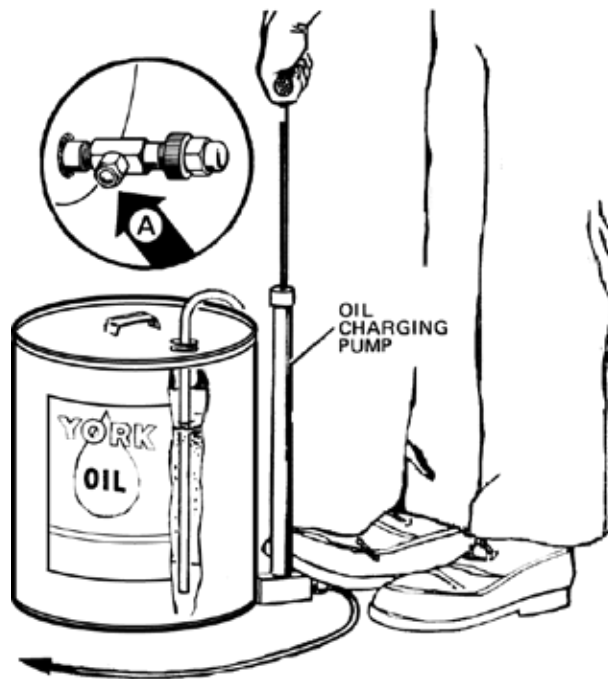

FIGURE 65 - CHARGING OIL
2. Immerse the suction connection of the oil charging pump in a clean container of new oil. Connect the pump discharge connection to the oil charging valve. Do not tighten the connection at the valve until after the air is forced out by pumping a few strokes of the oil pump, which fills the lines with oil and prevents air from being pumped into the system as shown in *Figure 65 on page 132*.
3. Open the oil charging valve and pump oil into the system until the oil level in the oil separator is about midway in the upper sight glass, and then, close the charging valve and disconnect the hand oil pump as shown in *Figure 65 on page 132*.